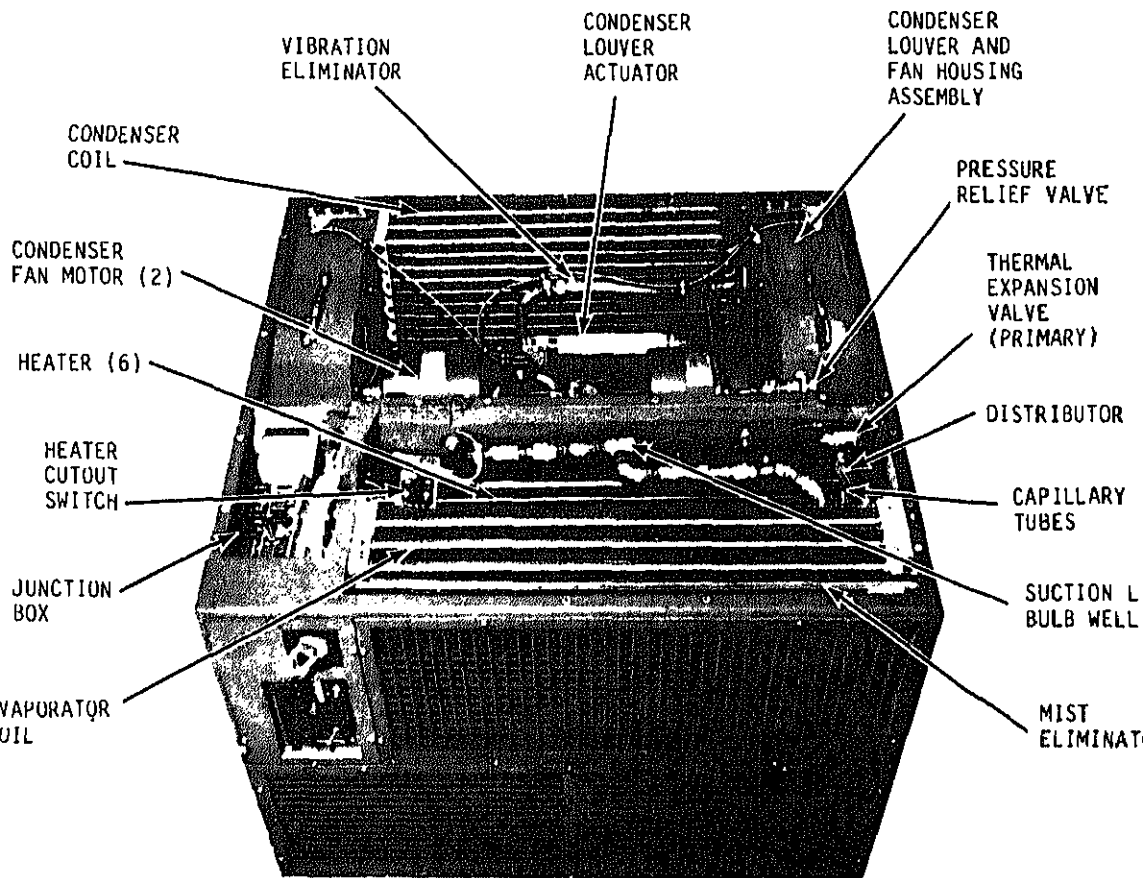

Figure 1-3. Air conditioner top view, top covers removed
a. Evaporator Section. The evaporator section (fig. 1-3), located in front of the air conditioner, contains intake and discharge air louvers, air filter, mist eliminator, evaporator coil, evaporator motor and fans, heating elements, heater thermal protector, main expansion valve, condensate drain
. Condenser Section. The condenser ion (fig. 1-3) located in the rear